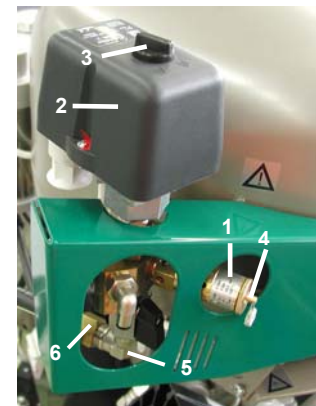
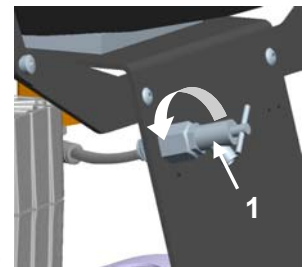

Fig.12
Fig.13
- Start compressor at pressure switch (2) by turning switch (3) to position "I." (Fig.12).
(Fig.12)
Compressors (Fig.13)
If the compressor will not be used for a prolonged time period, drain any condensate from the air tank. Then turn on the compressor for 10 minutes, keeping the drain valve open (1) (Fig.13). Switch off the compressor by switch (3) at pressure switch (2) (Fig.12), close the drain valve and disconnect the appliance from the mains.
Release air pressure in the pressure tank by opening the drain valve (1)(Fig.13).